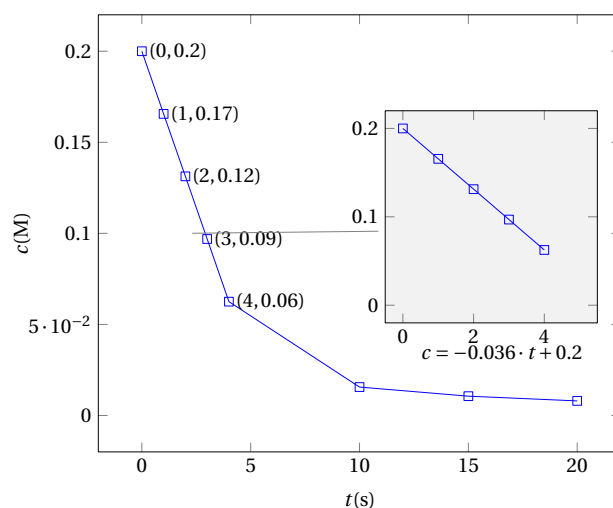

Figure 1 Concentration vs. time graph used to calculate initial velocities.
The concentration of reactants decrease with time, whereas that for products increase. In order to measure reaction rates in a laboratory we would need to pick up either a reactant or a product in order to track concentration changes with time. Here we will focus on reactants and we will explore how the numerical changes on concentrations can be translates into reaction rates. Figure 1 display the changes in concentration for a general reactant. We can see how the changes are more pronounced at early times and slowly become flat a late times. This is because any reaction tends to slow down as time progresses. The instantaneous rate of reaction r is just the slope on the graph at a given time.
As r changes with time, it is convenient to measure this value at very early times, when the concentration changes linearly with time. This is called the *initial rate* of a reaction, r_0 , the rate measured very early in the reaction progress. At the same time, *parasitic chemical reactions*, unwanted chemical reactions that occur alongside the primary, desired reaction, do not exist at early times, hence helping to make sure our measured concentration changes are due only to the reaction under study. To obtain initial rates, we will first visually identify the portion of the graph that appears linear. In Figure 1, the linear plot exists between the (0,0.2) and (4,0.06) points. There are two different ways to calculate this slope. In a first, less accurate, method we compute the difference in concentration Δc (-0.16) and the difference in time Δt (5) in the linear region. By
computing the ratio between Δc and Δt , we will obtain the average initial rate, an estimate of r_0 . In Figure 1 the average initial rate is
A second, more accurate, method uses a linear regression, a statistical function, to fit a line to a linear subset of data points. The slope of the regression is the initial rate. In linear regressions, R-squared represented as r^2 (also known as the coefficient of determination) is a statistic that measures how well a regression model explains the data. In Figure 1 the linear regression equation is $c = -0.036 \cdot t + 0.2$ and the initial rate is